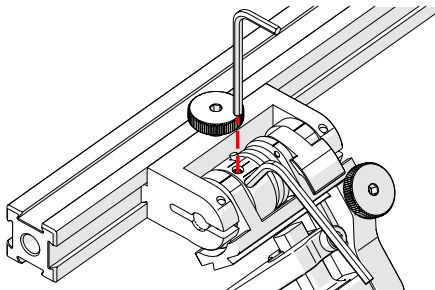

Fig. 57 - Insert hex wrenches
4. Place the 2 mm hex wrench into the force adjustment screw (Fig. 57).